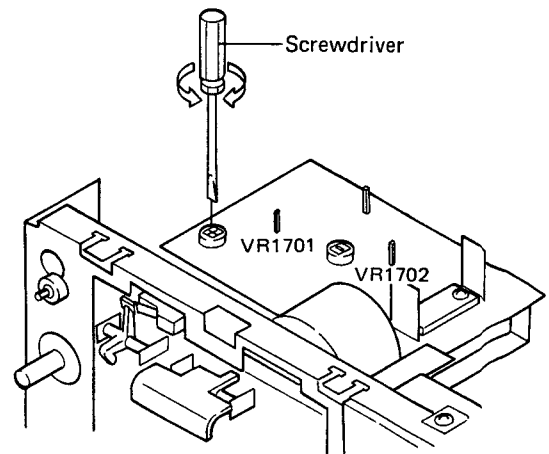

Fig. 9-4 Pitch control, center click position speed adjustment
4. Adjust VR1701 of the D.D. motor control assembly so that the difference between tape speed with the quartz lock OFF is not more than  $\pm 6\text{Hz}$  different from the quartz lock ON tape speed (Fig. 9-4).